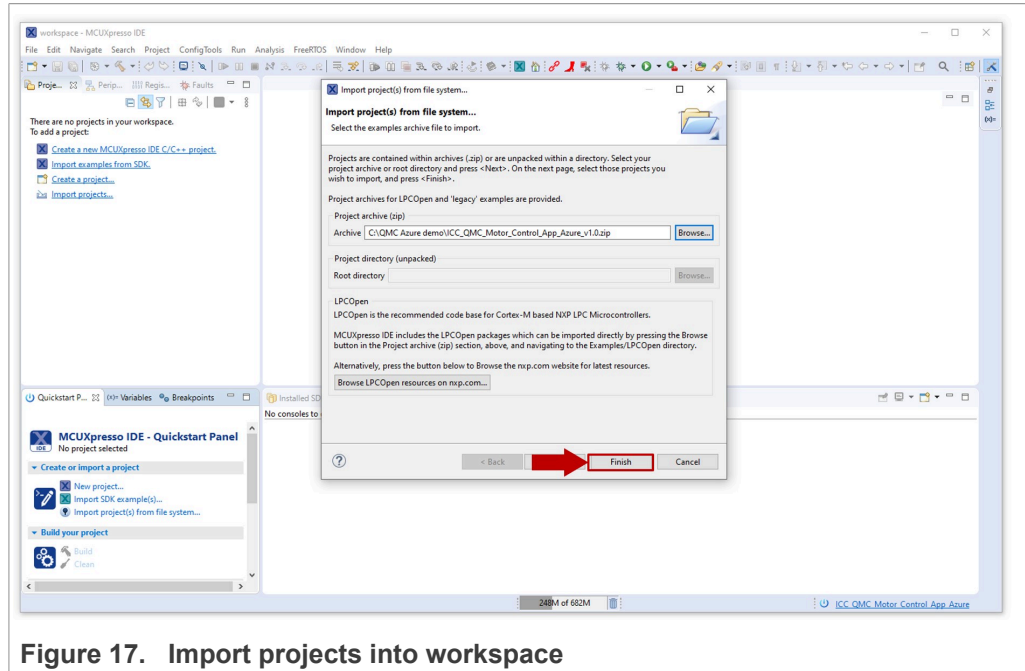

Figure 17. Import projects into workspace
- Click **Finish** as shown in Figure 17: